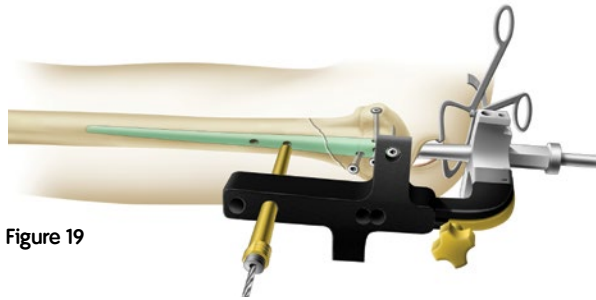

Figure 19
4. While applying compression at the condyles of the elbow to reduce shaft fractures as needed, make a stab incision and push the sleeve unit down to the bone (Figure 19).